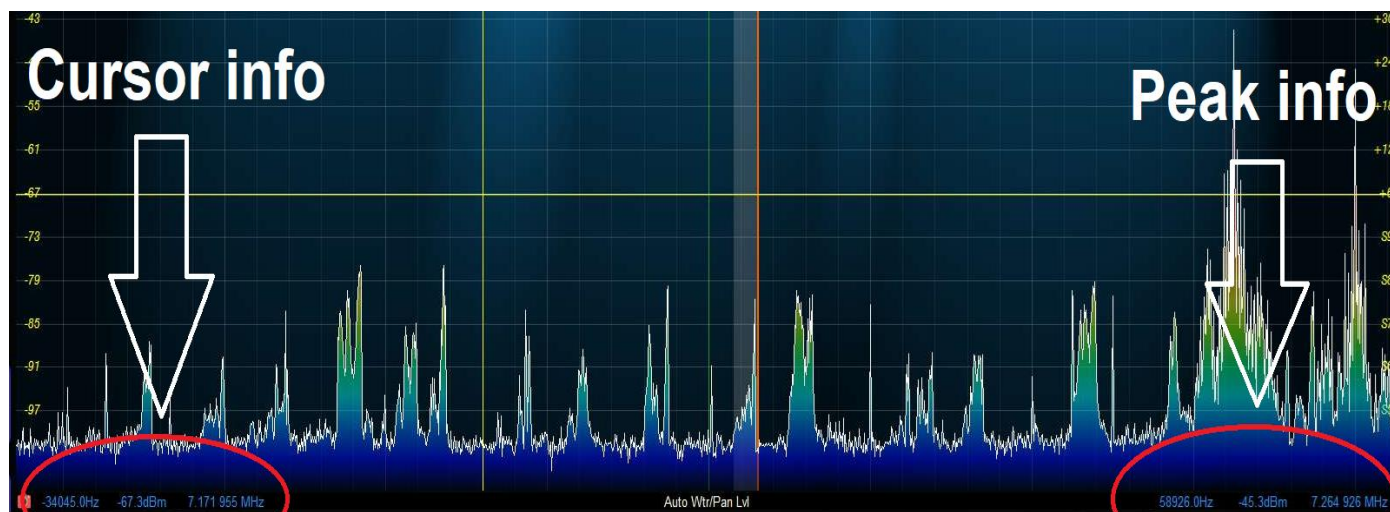

Figure 67: Cursor and Peak Position Information
- ❑ In the frequency domain displays (Spectrum, Panadapter, Histogram, Waterfall), right clicking the mouse cycles through yellow crosshairs, red crosshairs (only if **SPLT** or **MultiRX** is enabled), or no crosshairs. The crosshairs span the width and height of the display (yellow cross hairs are shown in Figure 67 above).
- ❑ Together with the **AVG** control they allow easy measurement of signals on the display. For example, in Figure 67 the cursor position is offset -10219.9 Hz from the VFO frequency and is at 14.244780 MHz. The horizontal line of the crosshairs is at -96.0 dBm.
(10) MultiRX Controls